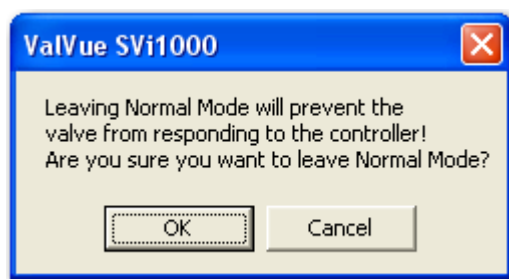

Figure 2 Leaving Normal Mode Warning
- Setup*: In this mode you can set calibration and configuration parameters. Whenever you leave the Normal mode, a warning appears (Figure 2).